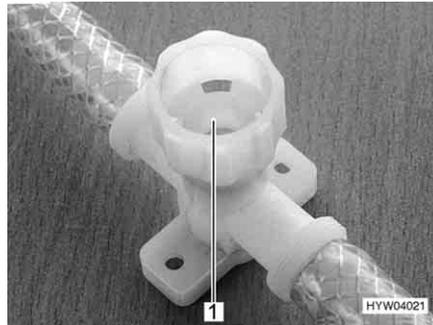

Fig. 155 Drain cock for hot water source
- Close all drain cocks. To do this, close the caps (Fig. 155,1) by turning them in a clockwise direction.
- Open all drain cocks of the hot water source. To do this turn the caps (Fig. 155,1) in an anticlockwise direction.